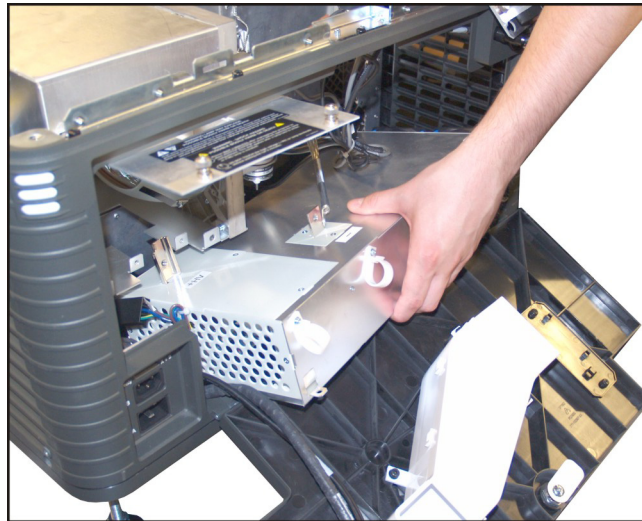

Figure 5-29 Remove LPS
11. Tilt the LPS up and slide out of the lamp door (Figure 5-29).